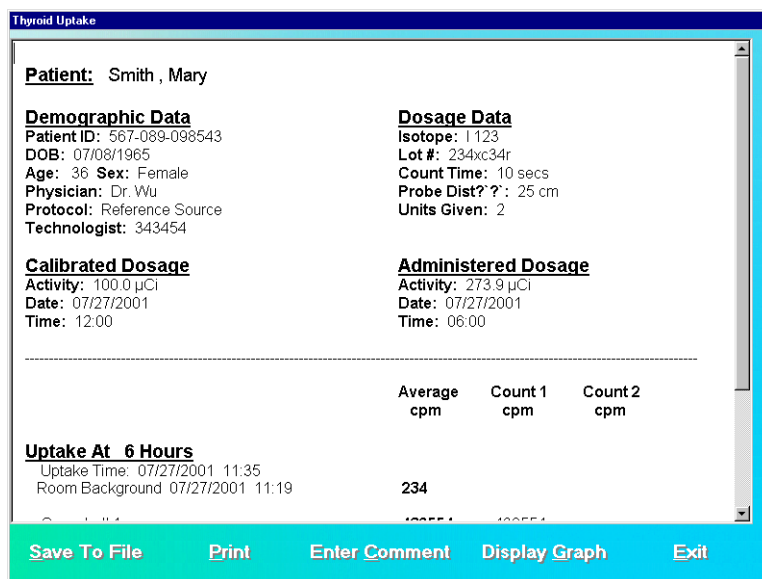

Figure 7-27
3. Click the  icon. A typical patient report screen appears as shown in Figure 7-27. It contains the patient's demographic data, measurement protocol, dosage information, count data and calculated results. If Normal Range values have been entered in the setup, normal ranges will also be printed. Any results outside of these limits, provided that the thyroid uptake was performed within 1 hour of the stated time in Normal Range setup, will be flagged as out of range.